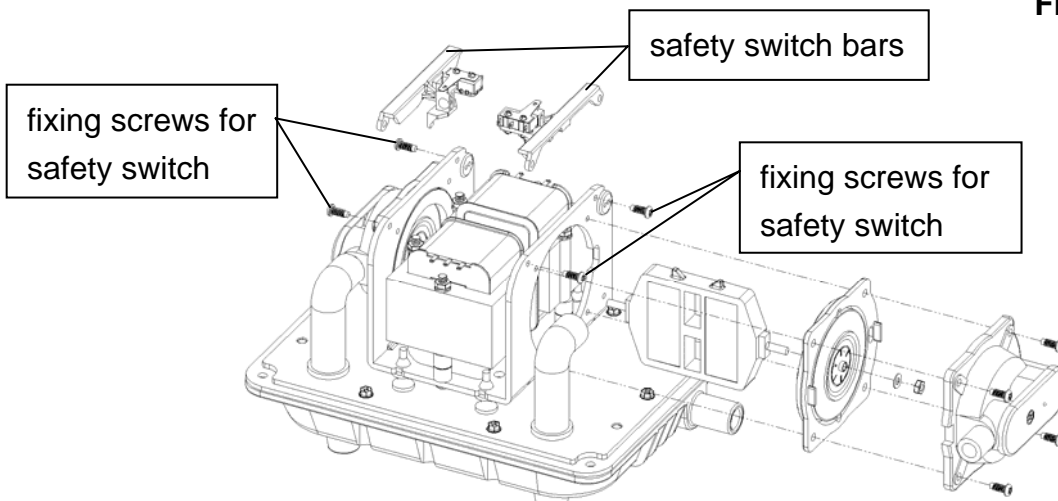

Figure 3
- B. Loosen the four screws on two sides of the safety switch first, and remove the bars vertically.(As shown in Figure 3)